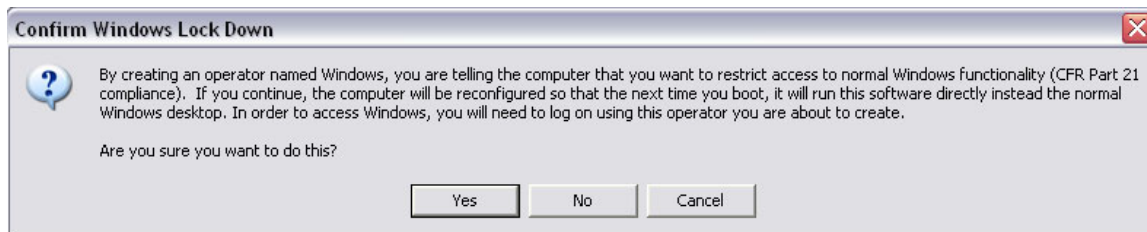

Figure 48: "Confirm Windows Lock Down" message
10. The **Confirm Windows Lock Down** message appears (Figure 48); click **Yes**.